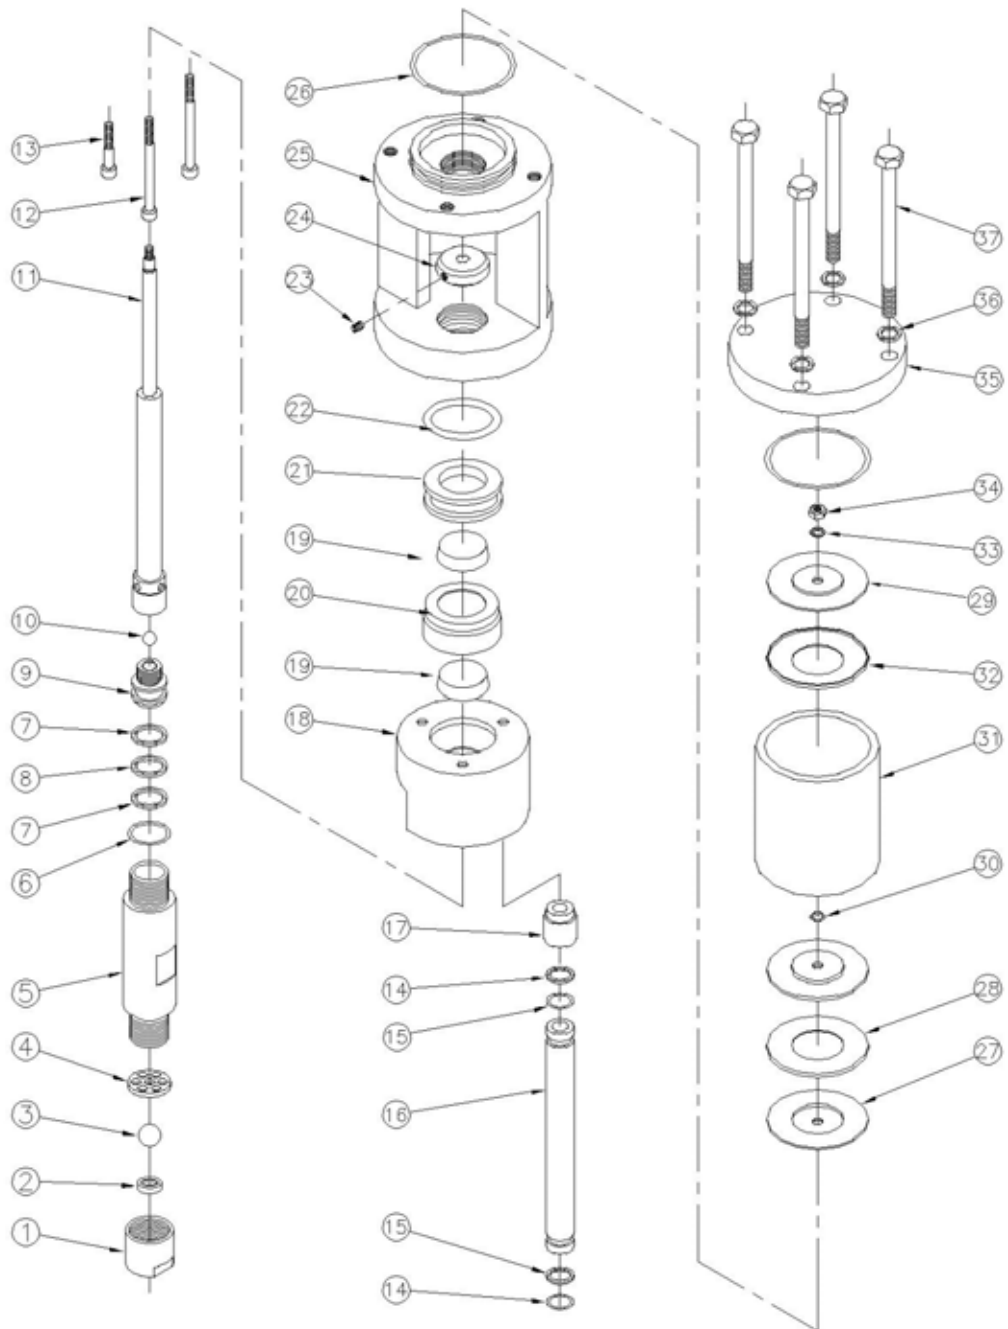

Figure 6.2 **The Pneumatic Pump**
9. Remove the fixing ring (9) with the adjustable spanner and take the steel ball (10) out of the cylinder shaft.
10. Loosen the bolts (35) that secure the cylinder with an open-ended spanner, and then take out the four bolts.
11. Remove the cylinder cover (35), and carefully take out the cylinder (31). Do not damage the leakage proof washer and the o-ring.
12. Loosen the nut (34) with an open-ended spanner; gently remove the leakage proof washer (28), the piston plate (27) and the piston ring (24).
13. Loosen the anti-slip nut (23) and take the cylinder shaft (11) out of the cylinder (25) vertically. Do not scratch the leakage proof components.
14. Use the Hexagon spanner to remove the hexagon screw (13) that secures the connection base (18) on the cylinder base.
15. Remove the leakage proof washer (includes (20), (22), (19)) and the tightening ring (21).
19. Referring to the figure 6.2, reassemble the pump with good components (old or new) and fix it on the applicator.